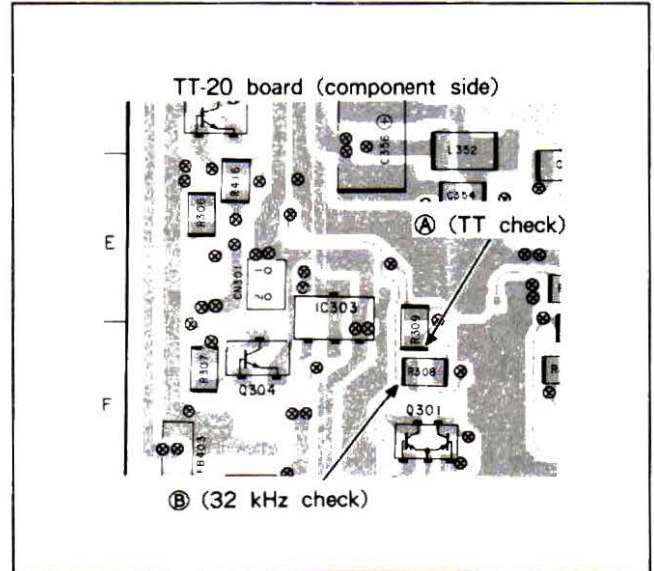

Fig. 8-43.
- 2) Connect the TT check land (Fig. 8-43. Ⓐ) and TP303 (GND) with a jumper wire.
- 1) Connect the 32 kHz check land (Fig. 8-43. Ⓑ) and TP303 (GND) with a jumper wire to set the check mode.
- 1) Connect the TT check land (Fig. 8-43. ㉔) and TP303 (GND) with a jumper wire.